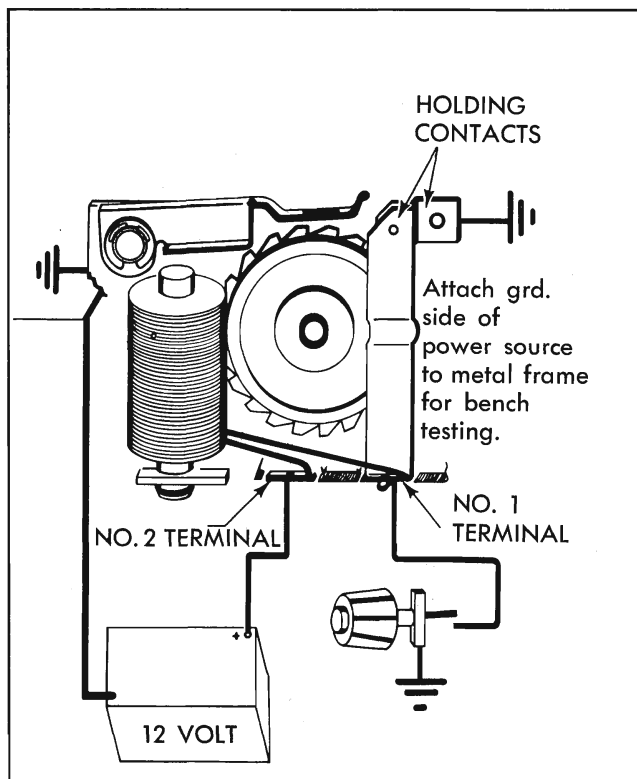

Fig. 11-115 Washer Pump Schematic
When the washer button on the dash is pushed in to start the washer the circuit to the washer pump relay coil is closed to ground (Fig. 11-115). The relay then pulls the ratchet arm in against the ratchet wheel.
1. Remove washer pump cover and connect 12 volt power supply to washer pump as shown in Fig. 11-115. Connect jumper wire from terminal No. 1 to ground. Turn ratchet pawl to the position shown in Fig. 11-115. Ratchet pawl should be pulled toward relay pole and engage ratchet teeth. Failure to do as described above indicates an open relay coil.